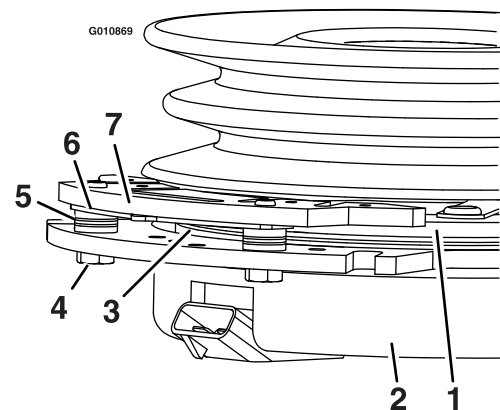

**Figure 63**
3. Remove the dust cap from caster and tighten the locknut (Figure 63).
4. Tighten the locknut until the spring washers are flat, and then back off a 1/4 turn to properly set the preload on the bearings (Figure 63).
**Important:** Make sure that the spring washers are installed correctly as shown in Figure 63.
5. Install the dust cap (Figure 63).